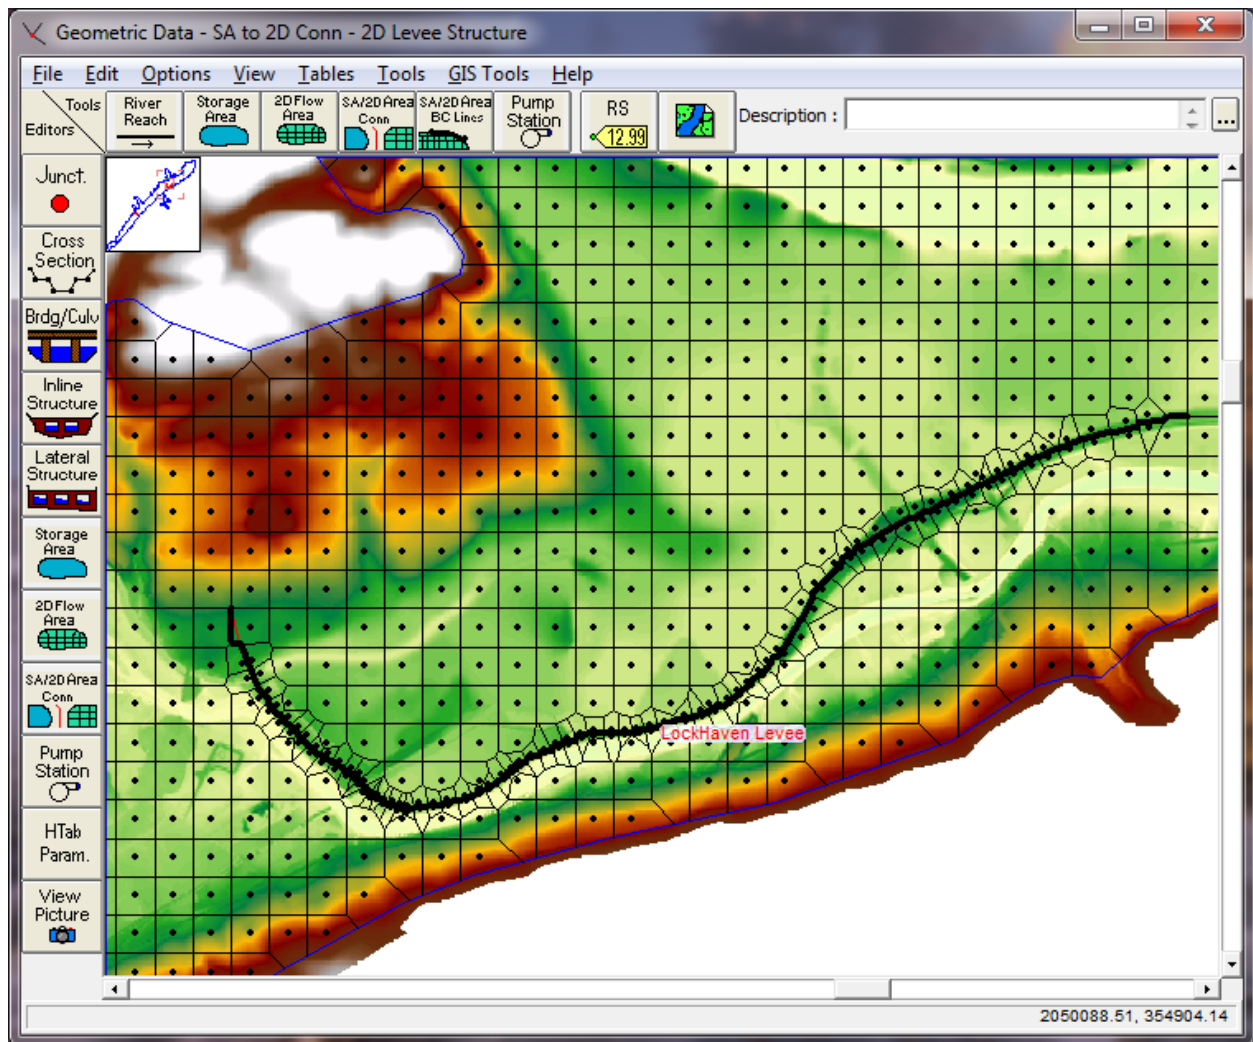

Figure 45. Example hydraulic structure inside of a 2D Flow Area.
HEC-RAS has the ability to add hydraulic structures inside of 2D Flow Areas. This is accomplished by using the “SA/2D Area Conn” option to make a hydraulic structure in the middle of a single 2D Flow Area. The hydraulic structure must be laid out along the Faces of the 2D Cells (2D Cell Faces control flow movement). See Figure 45.
- First modify the 2D Flow Area mesh so that the faces of the cells go along the centerline of the top of the hydraulic structure. For example, as shown in Figure 45, a levee is being modeled inside of a single 2D Flow Area. The 2D Flow Area mesh was modified (cell center points were added and moved) to have cells on both sides of the levee, such that the faces between the levee lined up on top of the levee. This requires adding enough cells to get the correct detail, as well as placing cell centers at equal distances apart on each side of the structure. [ Note: currently this is tedious with the HEC-RAS mesh editing tools. However, future versions of HEC-RAS will allow you to draw a break line on top of the levee (or hydraulic structure) and it will automatically modify the mesh to align the cell faces with the structure].